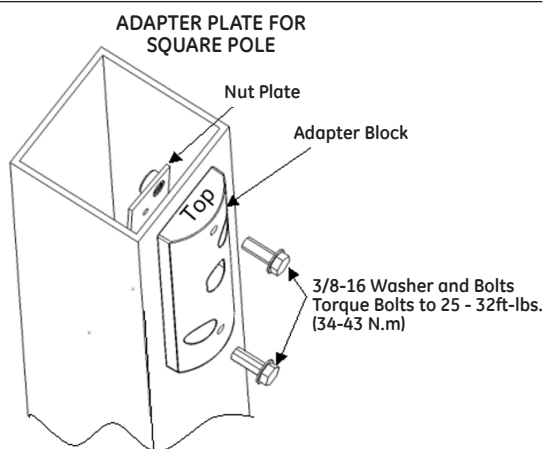

FIGURE 6
- With adapter block end oriented properly, mount adapter block to pole with the nut plate and 3/8-16 bolts and washer supplied as shown. Torque 3/8-16 bolts to 25 - 32ft-lbs (34-43 N.m). (See Figure 6)